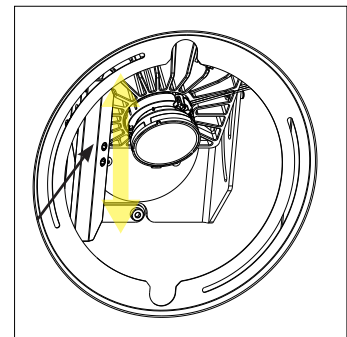

fig. 20 (Tilt)
- d. Using the 4 mm hex tool use the tilt control to aim the emitter (see fig 20).